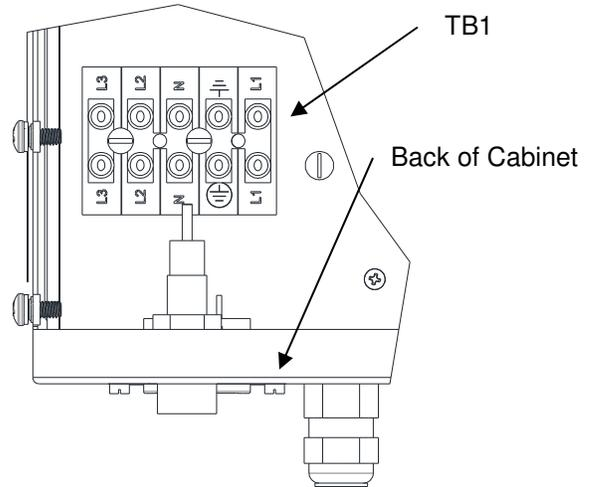
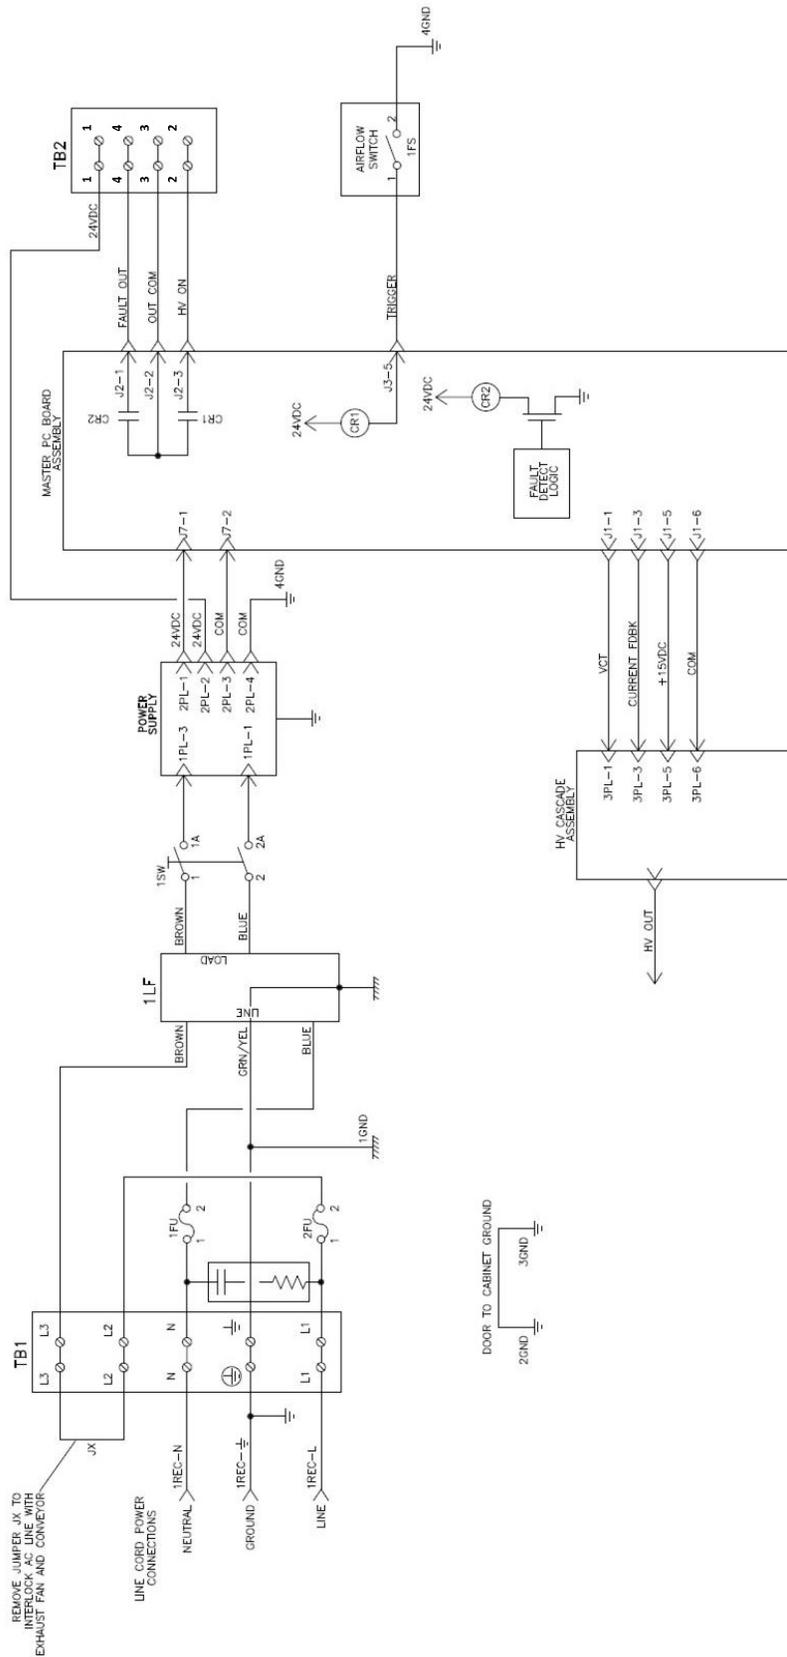

Figure 8: Location of TB1 in Controller
Figure 11: Controller Schematic
1. **Ensure the AC line cord is unplugged** and remove the AC inlet receptacle wiring from 1TB-N, 1TB-L1 and 1TB-EARTH GROUND (See Figures 8 and 9).
4. Using a shielded cable for the interlock wiring (supplied by user), route through the interlock connector on the side of the 9060 Controller and terminate 1TB-L2 and 1TB-L3 as shown in Figure 11. The shielded cable must have a minimum rating of 300V
A set of relay contacts for high voltage (CR1) and fault (CR2) conditions is provided at 2TB-2 and 2TB-4 (See Figure 8). One end of these relay contacts are connected together and also connected to a source input terminal 2TB-3 (See Figure 11). When a source voltage is present at 2TB-1 and either the high voltage is on or a fault condition occurs, the source voltage will become available at the output end of the corresponding contact. Maximum contact ratings are as follows: